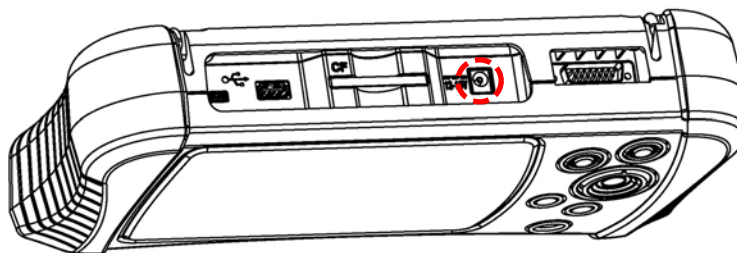

Figure 3-8 DC power supply input
1. Plug the 2.5 mm end of the AC/DC power supply cord into the DC port on the tool (Figure 3-8).